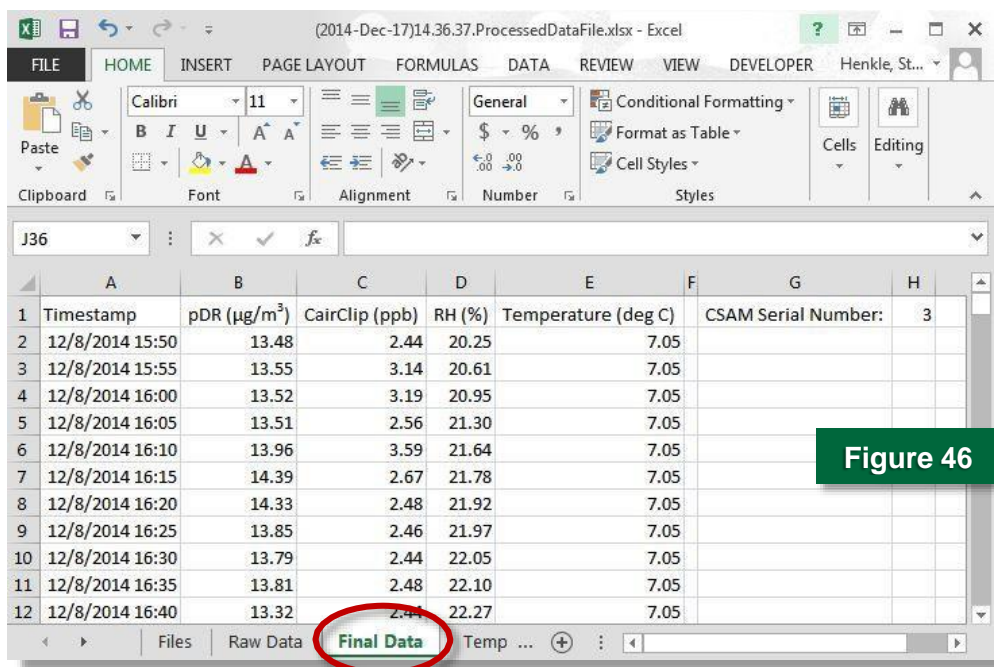

Figure 46
- ❖ The **Final Data** tab (Figure 46) contains the processed data from all sensors reported in the concentration and temperature and RH units needed for understanding the data.